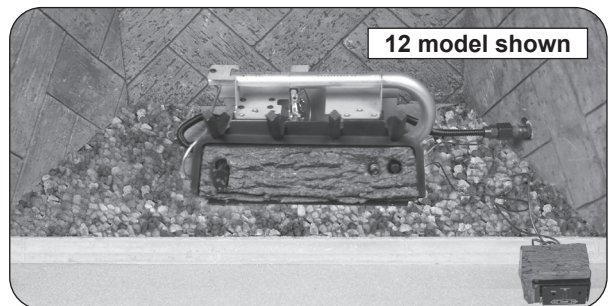

Fig. 20-4 Place lava granules
1. Spread the supplied lava granules on the floor of the fireplace, around the front and sides of the burner system (see Fig. 20-4). The lava granules may be placed around the remote receiver (if applicable). Leave the front of the receiver clear for control access.